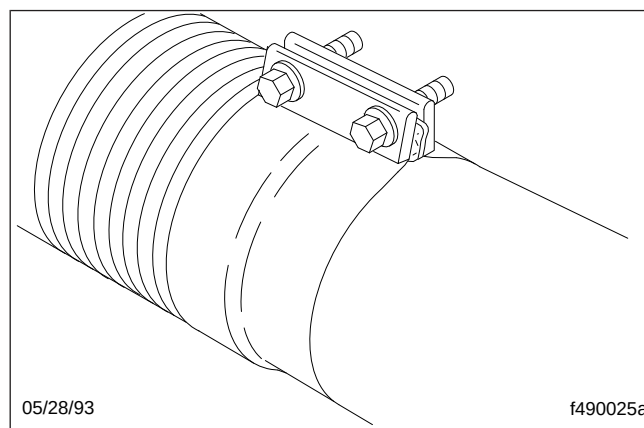

Fig. 8, Donaldson SealClamp Wide-Band Exhaust Clamp
- Check for leakage at all wide-band exhaust clamps. See Fig. 8.